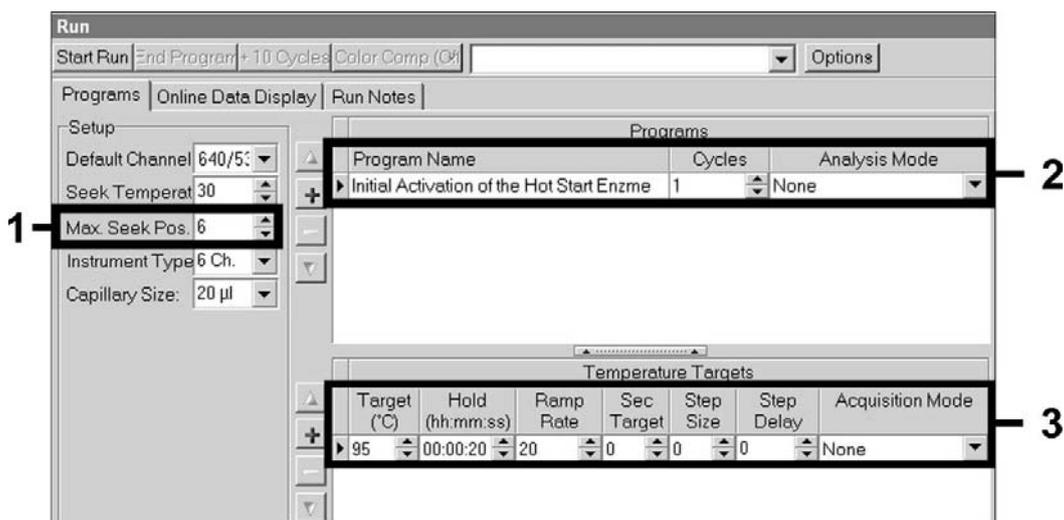

Fig. 6: Initial Activation of the Hot Start Enzyme.
Subsequently, for the detection of HBV DNA, create a temperature profile on your *LightCycler 2.0* Instrument according to the following three steps (see Fig. 6 – 8).
- A. Initial Activation of the Hot Start Enzyme Fig. 6
Make sure that you first enter the number of capillaries prepared for this PCR run (*Max. Seek Pos.*, see Fig. 6).